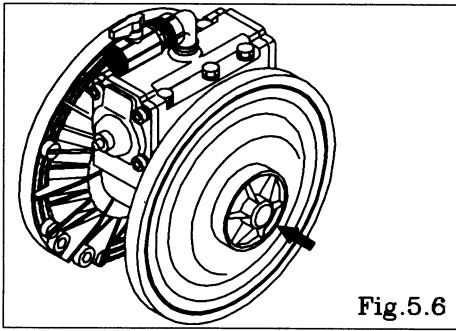

Fig. 5.6
- Remove the center disk from one side using the PP wrench (special tool: part No. 771868) [fig. 5.6]